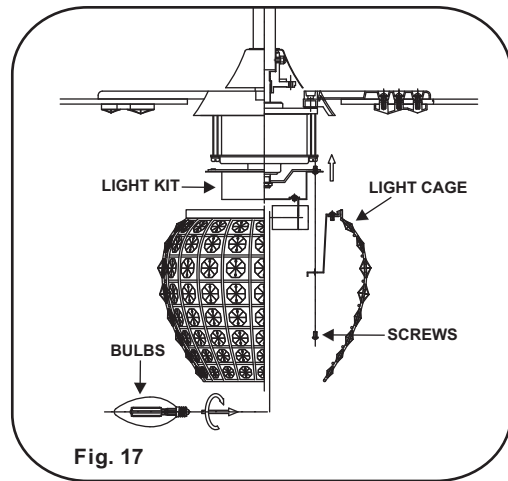

Fig. 17
Step 2. Place the key holes on the light cage over the 2 screws previously loosened from the light kit, turn light cage until it locks in place at the narrow section of the key holes. Secure by tightening the 2 screws previously loosened and the one previously removed. (Fig. 17)